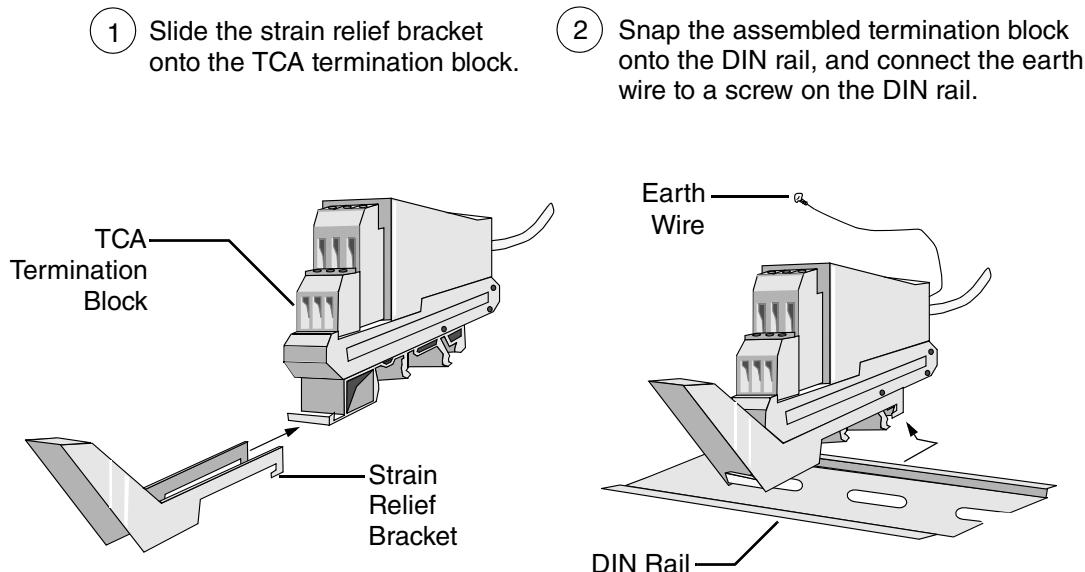

Figure 2-21. TCA Termination Block Assembly and Mounting
1. Referring to Figure 2-21, assemble the termination block(s) associated with the control processor TCAs, snap them onto a DIN rail in the I/A Series rack, and connect the earth wire(s).